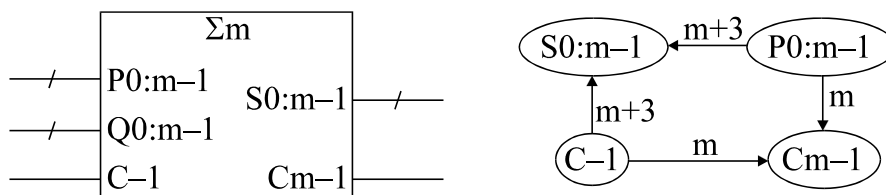

Figure 3
2. *Figure 3* shows the symbol and propagation delay graph for an m -bit full adder. The delays from the Q inputs have been omitted from the graph as they are equal to those from the P inputs.
The circuit of *Figure 4* uses two full adders together with two multiplexers. The C-1 inputs of the two full adders are connected to logic 0 and logic 1 levels respectively. In the question below, the phrases *simple adder block* and *complex adder block* refers to the circuits of *Figure 3* and *Figure 4* respectively.